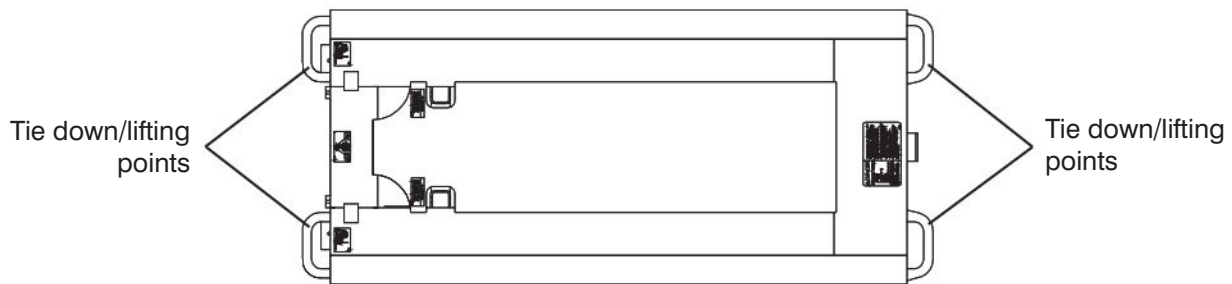

Figure 2-17. Tie Downs/Lifting Points
- The lifting/rigging may be attached to all four lifting points as illustrated in Figure 2-17.
**When transporting, the aerial platform must be secured to the truck or trailer deck. Tie downs are available as illustrated in Figure 2-17.**